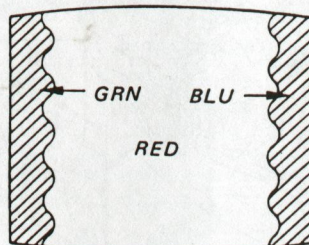

Fig. 3-2.
- 5 Move the deflection yoke back, and adjust the purity control so that **R** is in the center and **G** and **B** are at the sides, evenly. (Figure 3-2.)